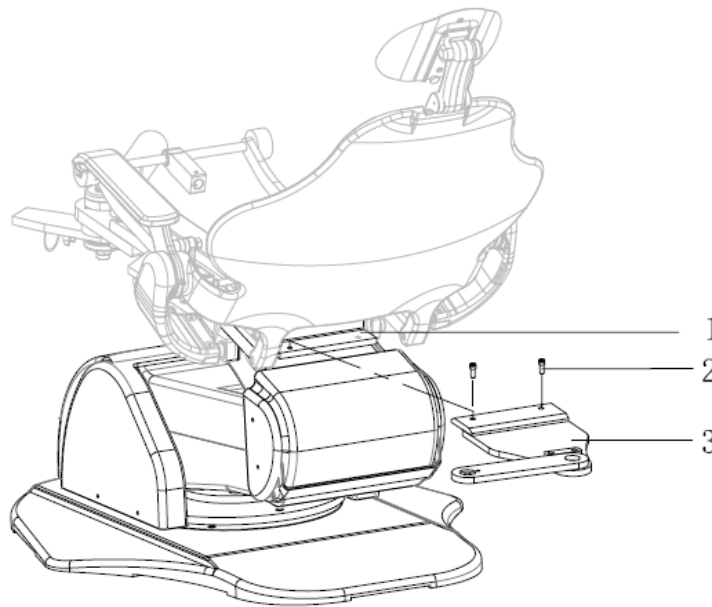

Figure 13. Assistant's System Rear Pivot Chair Adapter B Installation
1. Place the Rear pivot chair adapter B. ② on top of the rear pivot chair adapter A. ①.
3. Install the rear chair adapters A and B with two button head screws as shown on Figure 13.